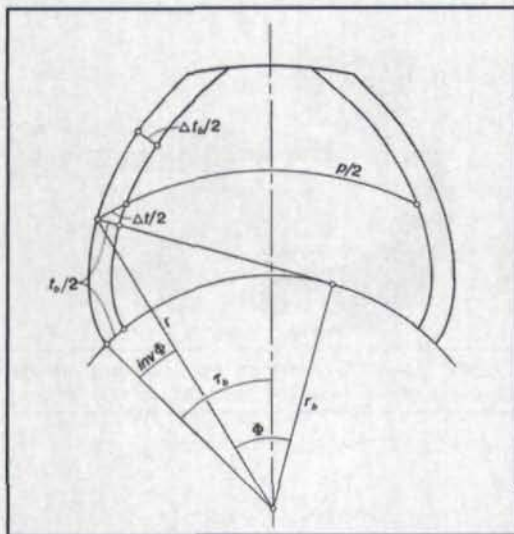

Figure 5—Deviation from basic tooth thickness.
From Figure 5, it is seen that the
As mentioned earlier, the calculated tooth thickness for an imperfect gear is not the same for all span measurements. Specifically, given a span measurement (M), the Δt is calculated from Equation 1. However, as seen in Figure 5, the $\Delta t/2$ is a circular arc on the reference circle, not a normal to the involute at radius r_c (Eq. 3). Even so, in Equation 1 the $\Delta t \cos\Phi = \Delta t_b$, where $\Delta t_b/2$ is normal to all points on the involute; that is, in Figure 5 the arcs $\Delta t/2$ and $\Delta t_b/2$ subtend equal angles, namely,
where from Figure 5 the $r \cos\Phi = r_b$, so that $\Delta t \cos\Phi = \Delta t_b$. Thus, the equation for $\Delta t_b/2$ is simply